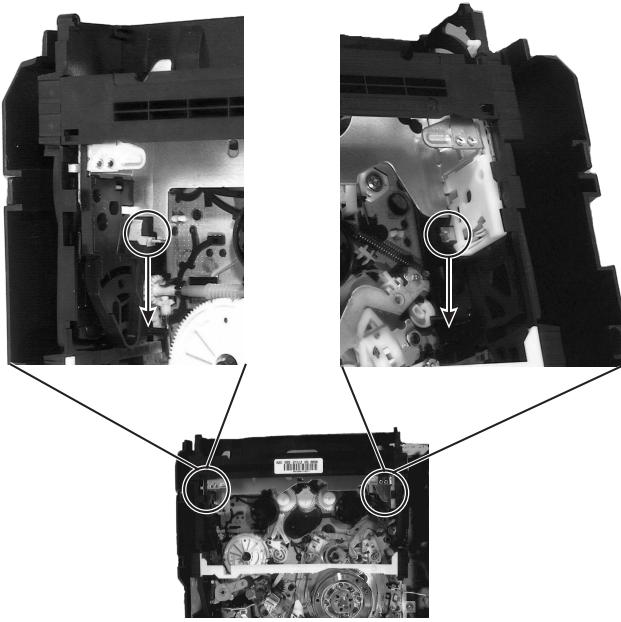
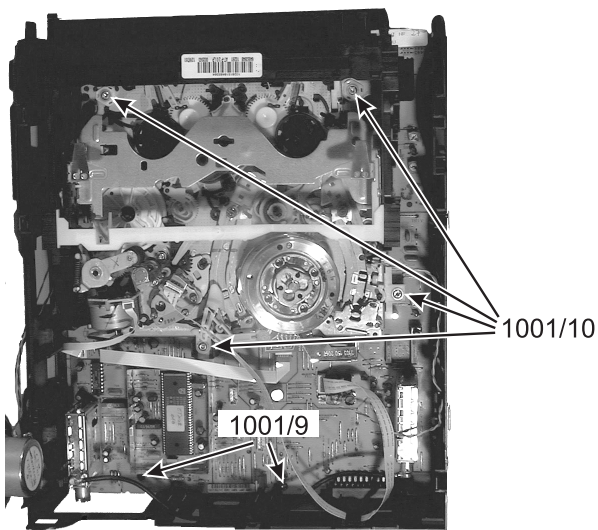

Figure 4-5
Figure 4-6
10. To take the drive motherboard unit out of the groove, remove the 6 screws 1001/9 and 1001/10 (see figure 4-6). First slide the lift backwards by 5cm after unfastening the two lift locks (see figure 4-5).